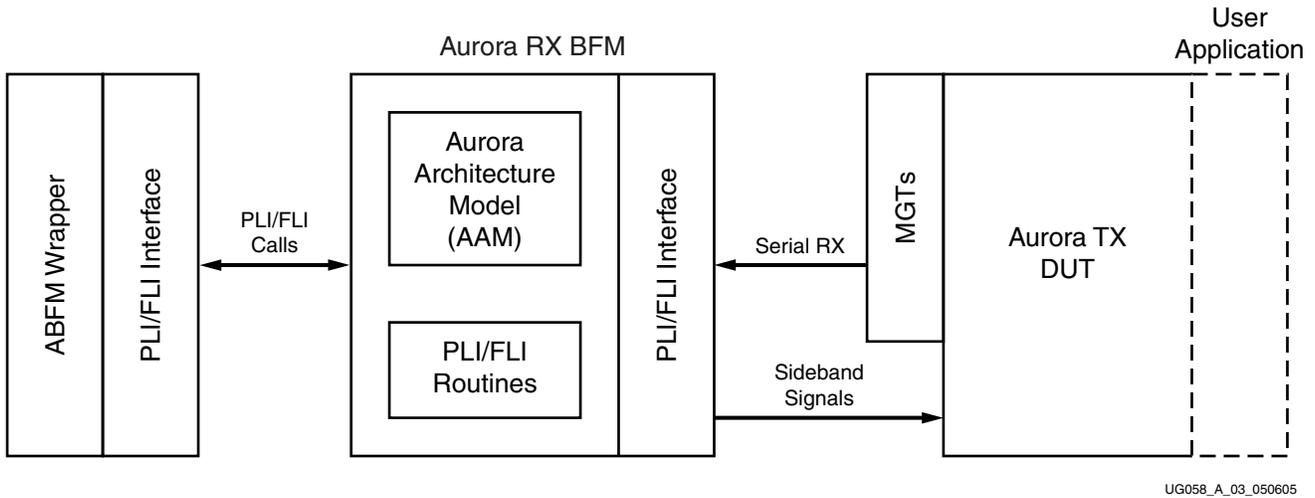

Figure A-3: Aurora 8B/10B Simplex RX BFM: Test Environment with Simplex TX DUT
- **Scenario 2:** A a simplex RX BFM talking to a simplex TX DUT (Figure A-3, page 45)
Figure A-3 shows the Aurora 8B/10B simplex RX BFM module in the test environment with a simplex TX DUT.